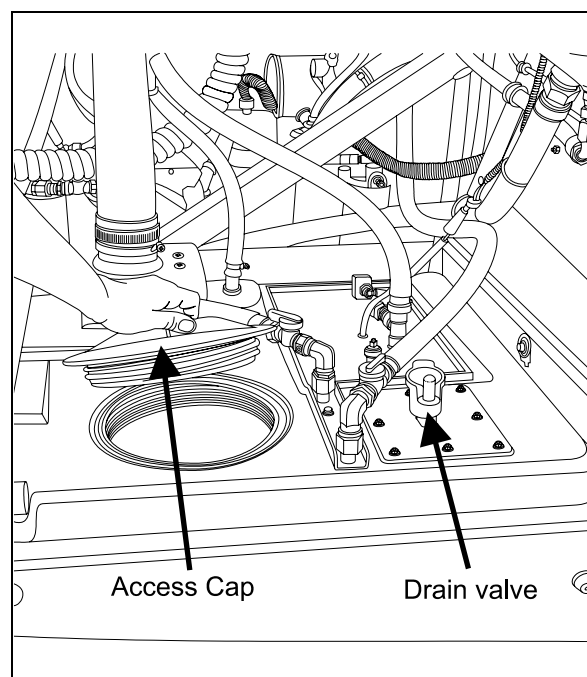

FIGURE 28: SUMP TANK
2. Insert projection at end of "BOBRICK" key into rectangular hole in cover (Fig. 28). Push straight in. While holding "BOBRICK" key in, turn cover counterclockwise about 1/8 turn.